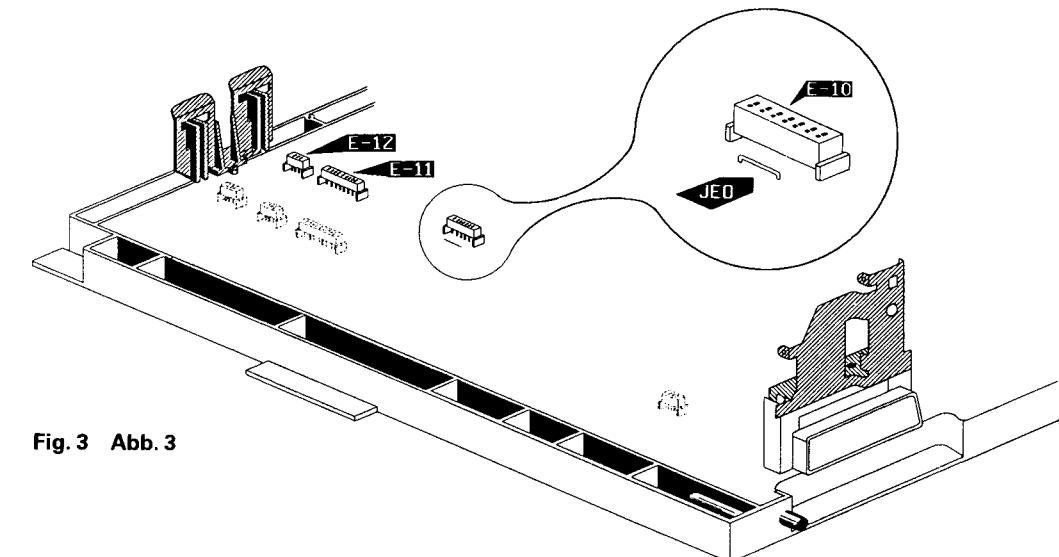

Fig. 3 Abb. 3
3. To allow easy service of (H) board. The Teletext board must be removed, refer to section 1. If the receiver is to operate without the Teletext PCB, a jumper wire has to be inserted into position JEO. Refer to Fig. 3